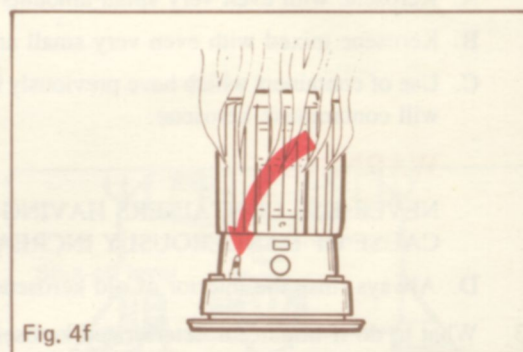

Fig. 4f
15. If you suspect that the heater is not working properly, extinguish it immediately by pushing the shut-off lever down and consult trouble-shooting guide or service center. (See Fig. 4f)